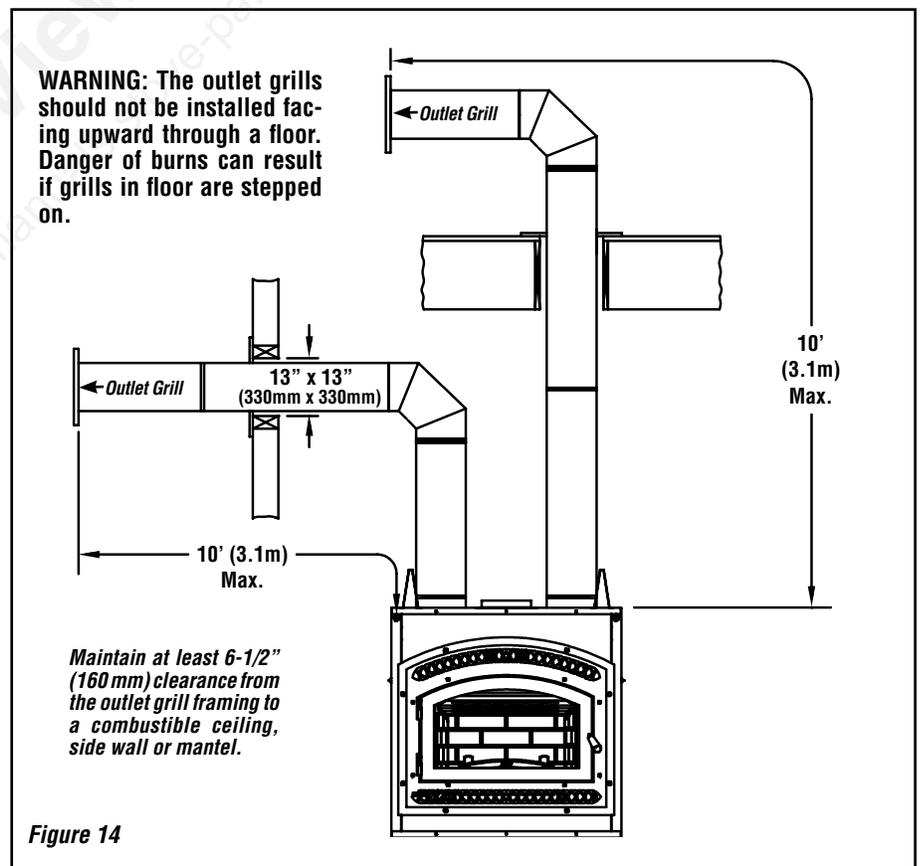

Figure 14
The gravity kit is designed for double hot air outlets and includes: (See **Figure 14**).
- Maximum length** See **Figure 14**
When installing the double outlet system, the hot air outlets can be installed in the same room as the fireplace, or one or both of the outlets can be installed in adjacent or upper rooms. Installing the ducts at different elevations will tend to exhaust more heat out of the higher outlet (**Figure 14**).